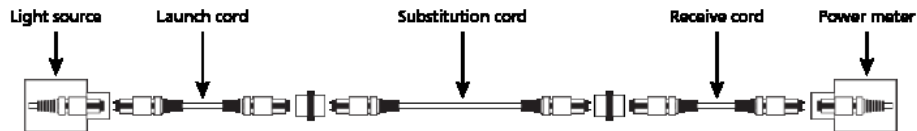

Figure 15. Set the reference
1. Set a reference between the light source and power meter using the launch cord, receive cord, and substitution cord (see Figure 15).